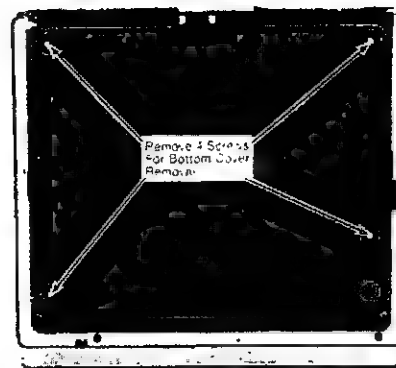

Fig. 2-3. — Bottom Cover Removal
2. Remove 4 each phillips head screws (Figure 2-3).